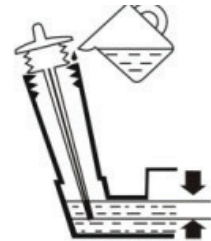

Fig.17
2. Loosen the dipstick and read the oil level. See fig 17
See fig 17
4. It necessary fill with oil up to the FULL mark .See fig.17.